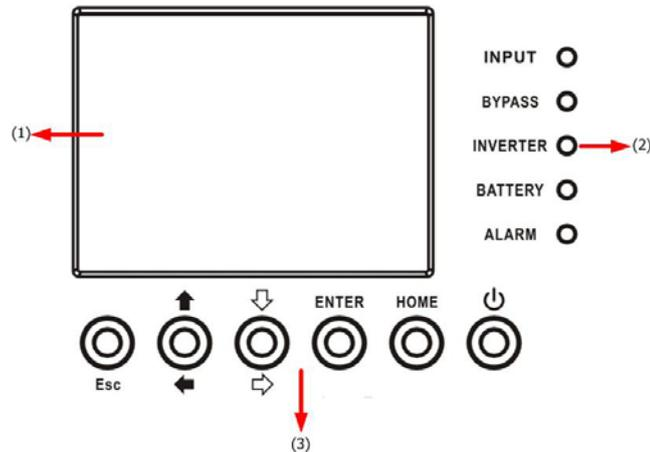

Figure 4-1: Control panel
This control panel and display description are located at the front door of the UPS. It is the USER control, monitoring of all measured parameters, UPS and battery status and alarms. The control panel and display description are divided into four functional areas: (1) LCD display, (2) LED indications, (3) Control keys, (4) Audio Alarm, as shown in Figure 4-1.